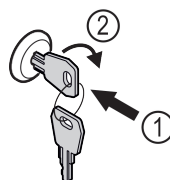

Fig. 67
- ▶ Insert key Fig. 67 (1).
- ▶ Turn key clockwise by 90° Fig. 67 (2).